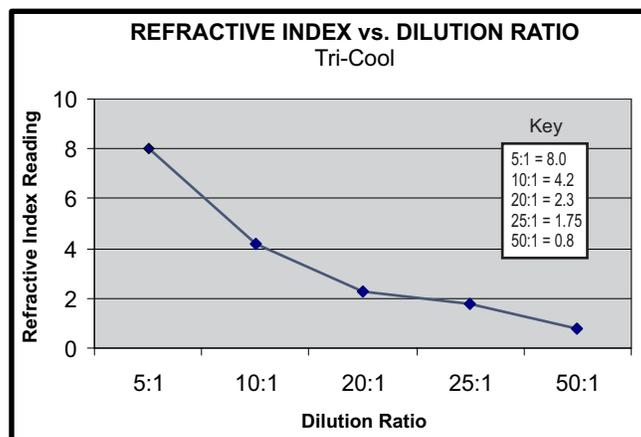

Figure 2
A refractometer is used to determine the dilution ratio of Tri-Cool TC-1. The refractometer takes light and bends it through the solution to give a reading on the Brix scale. Below is a chart that shows the refractive index vs. dilution ratio for Tri-Cool TC-1 (Fig. 2).
8. Refer to graph for actual concentration level of Tri-Cool TC-1 solution (Fig. 2).